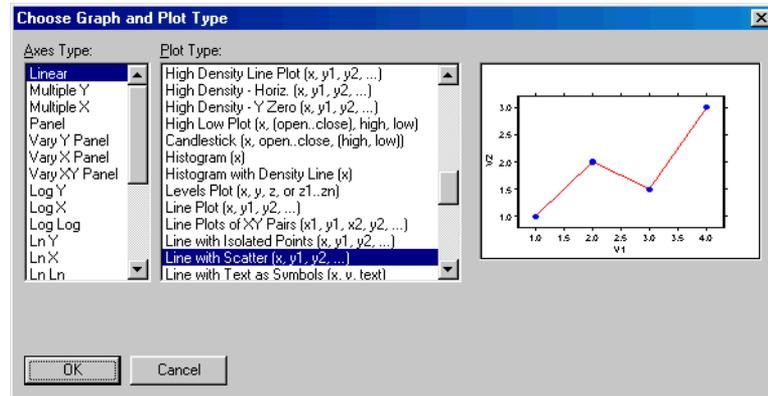

Figure 10.17: The *Choose Graph and Plot Type* dialog.
- The default plot type is a linear line-with-scatter plot, which takes one input. This plots a single column vector against a set of indices. If you want the default plot type, click **Finish**. If you want to change the plot type, click the **Choose Axis/Plot Type** button to open the **Choose Graph and Plot Type** dialog, as shown in Figure 10.17.